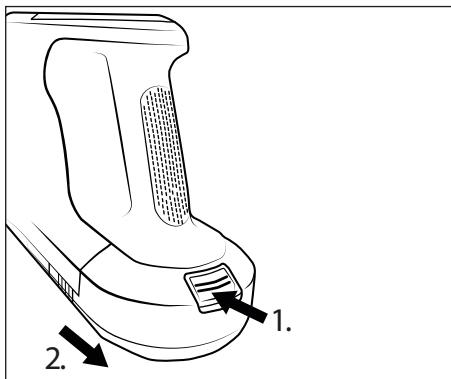

Fig. 13
- ◆ To remove the battery **②** from the appliance, press and hold the battery release button **①** and pull the battery **②** out of the appliance (see Fig. 13).